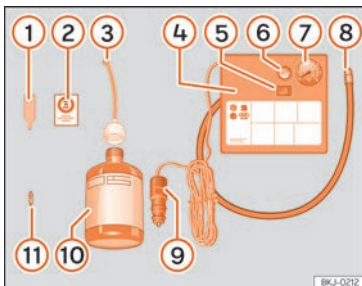

Fig. 104 Standard display: contents of the anti-puncture kit.
The tyre mobility system is located underneath the floor covering in the boot. It includes the following components »» Fig. 104:
Screw the inflator tube »» Fig. 104 ⑧ again and check the tyre pressure on the gauge ⑦.